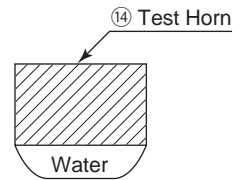

Fig. 16
- (4) Turn ON the output ON / OFF Switch ⑥, keeping the Power Control Knob ⑨ at MIN.
Ultra sonic oscillation draws the water drop flat as shown on the Test Horn ⑭ (Fig. 16).